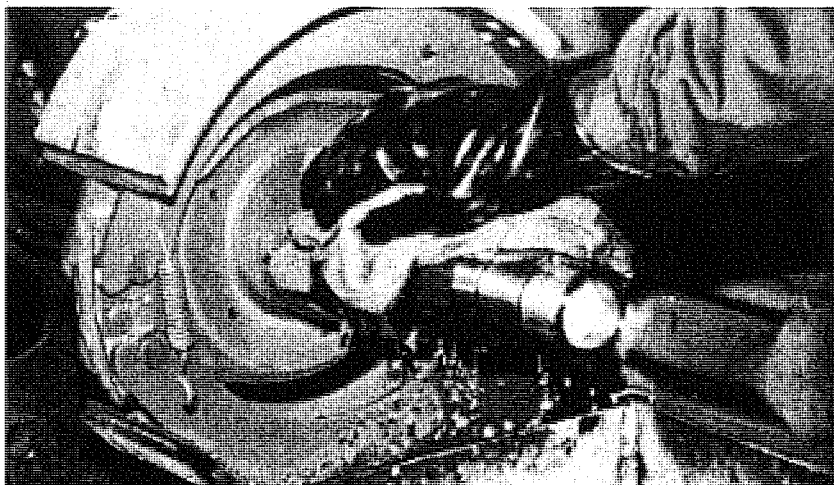

Figure III-2: Cleaning of components with commercial solvent.
- e. Clean all component parts with a good grade of commercial cleaner, as shown in Figure III-2, and dry with a clean, absorbent cloth or paper. Lubricant will not adhere to surfaces wet with solvent, and these solvents may dilute the lubricant. All tools used in the installation should be clean and dry. If components are not clean, or if contaminants are introduced to the system through the tools, your axle and/or wheel life may be significantly reduced.